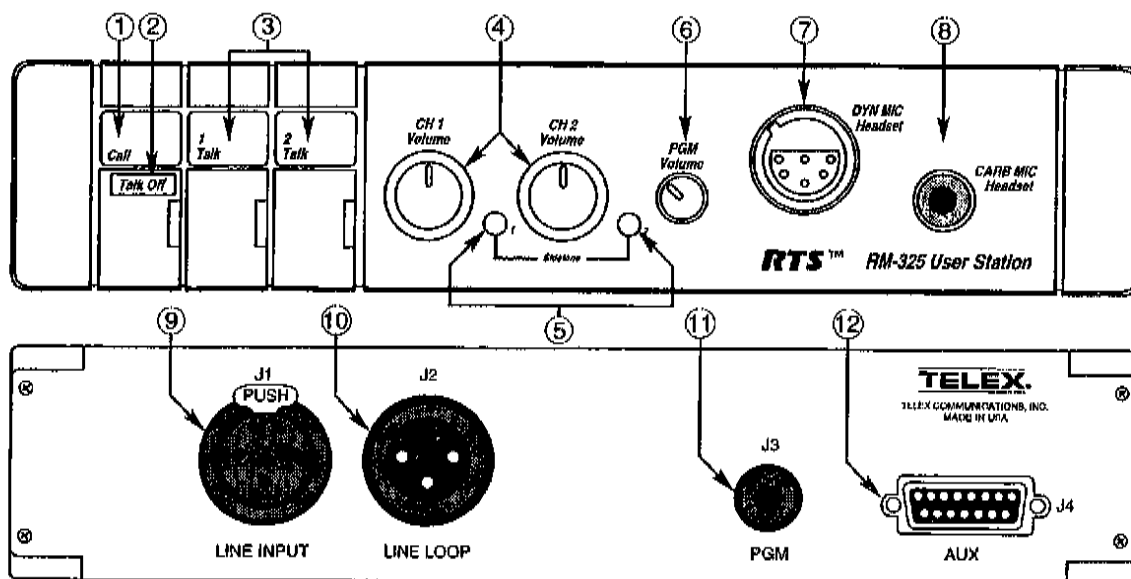

Figure 2-1. RM-325 Connections and Controls
**NOTE:** The numbers refer to the callouts in Figure 2-1.